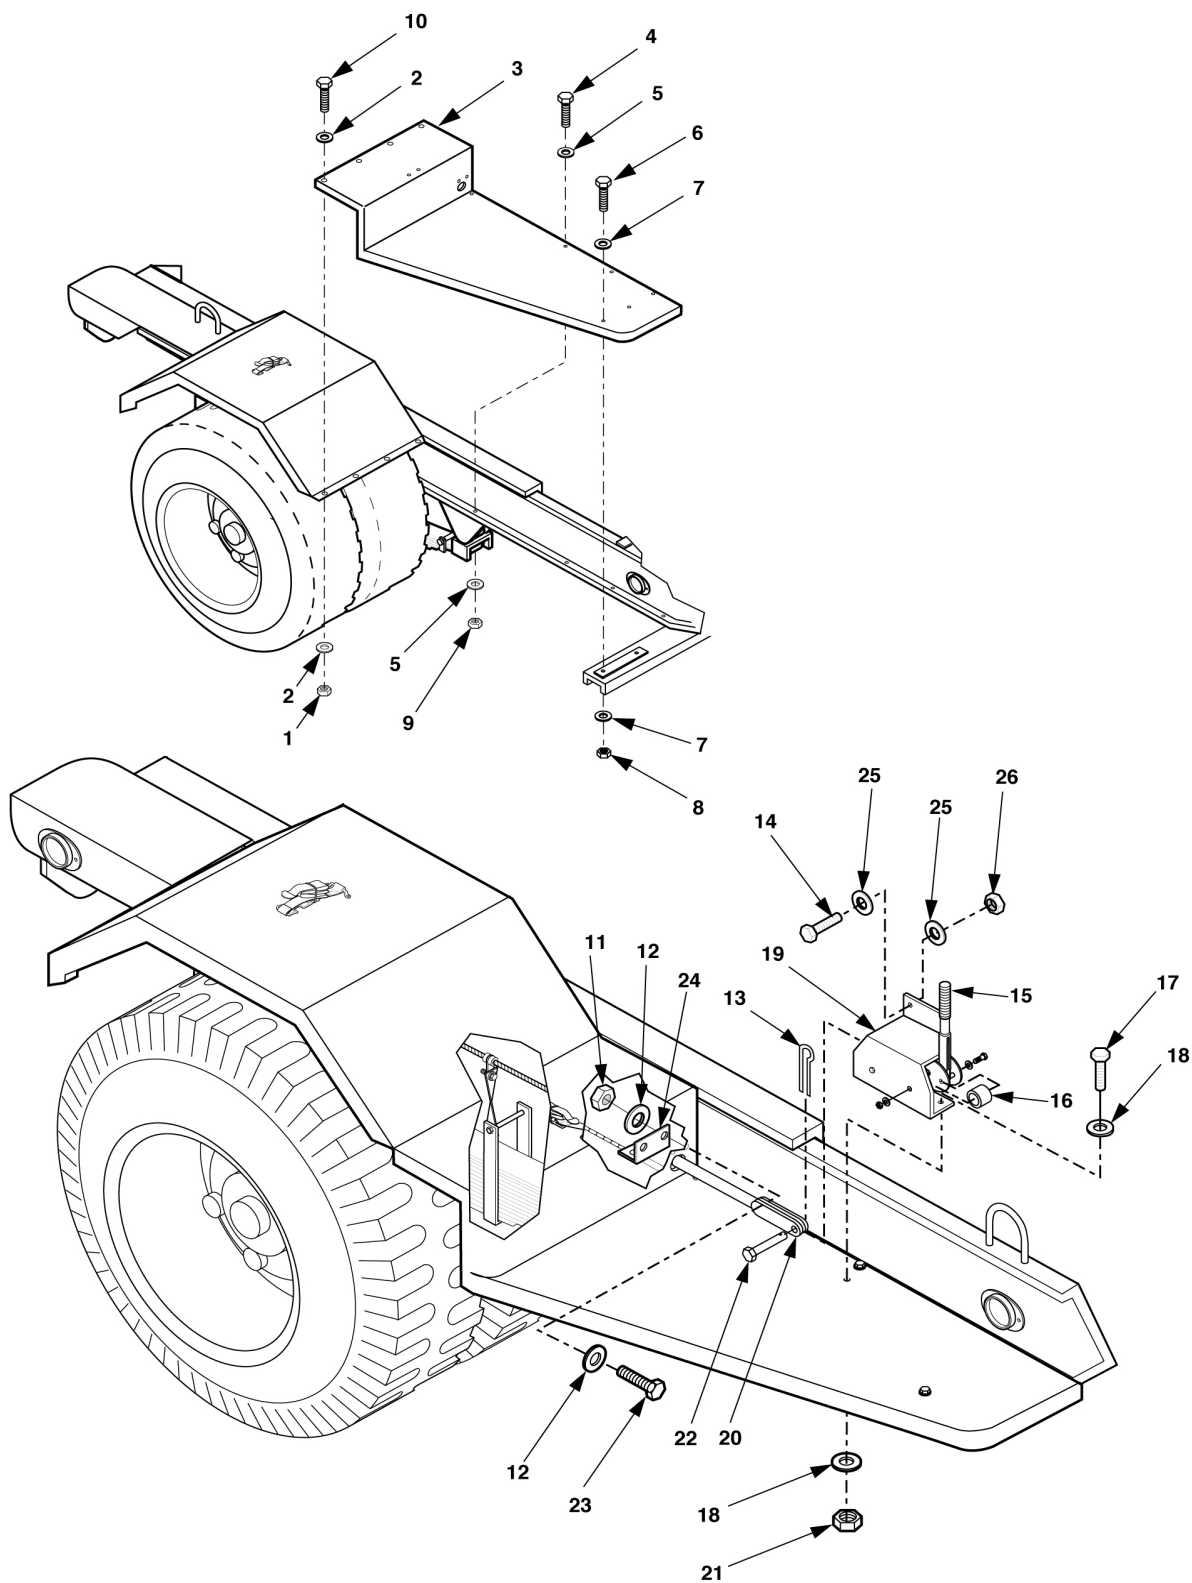

Figure 4-22. Front Step Replacement
3. Remove cotter pin (13, figure 4-22), spacer (16), and clevis pin (22), securing handbrake cable to handbrake lever mechanism (15). Discard cotter pin (13).
4. Remove self-locking nuts (26), flat washers (25), and cap screws (14) which secure handbrake bracket (19) to trailer frame. Discard self-locking nuts (26).
5. Remove self-locking nuts (21), flat washers (18), and cap screws (17), securing handbrake bracket (19) to front step (3). Discard self-locking nuts (21).
6. Remove handbrake bracket (19) and handbrake mechanism (15).
7. Remove self-locking nuts (11), flat washers (12), and cap screws (23), which secure brake cable bracket (24) to front step (3). Remove clevis (20). Discard self-locking nuts (11).
8. Remove self-locking nuts (1), flat washers (2), and cap screws (10), securing front step (3) to front edge of fender. Discard self-locking nuts (1).
9. Remove self-locking nuts (9), flat washers (5), and cap screws (4), securing front step (3) to trailer frame. Discard self-locking nuts (9).
10. Remove self-locking nuts (8), flat washers (7), and cap screws (6), securing front step (3) to chassis. Discard self-locking nuts (8).
11. Remove front step (3).
1. Position front step (3, Figure 4-22) on cross braces and trailer frame. Insert handbrake clevis (20) through hole in front step (3).
2. Install cap screws (6), flat washers (7), and new self-locking nuts (8), which secure front step (3) to chassis.
3. Install cap screws (4), flat washers (5), and new self-locking nuts (9), which secure front step (3) to trailer frame.
4. Install cap screws (10), flat washers (2), and new self-locking nuts (1), which secure front step (3) to fender.
5. Install cap screws (23), flat washers (12), and new self-locking nuts (11), which secures brake cable bracket (24) to front step (3).
6. Position handbrake bracket (19) and handbrake lever mechanism (15) on front step (3).
7. Install cap screws (17), flat washers (18), and new self-locking nuts (21), which secure hand break bracket (19) and hand break mechanism (15) to front step (3).
8. Install cap screws (14), flat washers (25), and new self-locking nuts (26) which secure hand break bracket (19) to trailer frame.
9. Position handbrake cable to handbrake mechanism (15) and install clevis pin (22), spacer (16), and secure with new cotter pin (13).